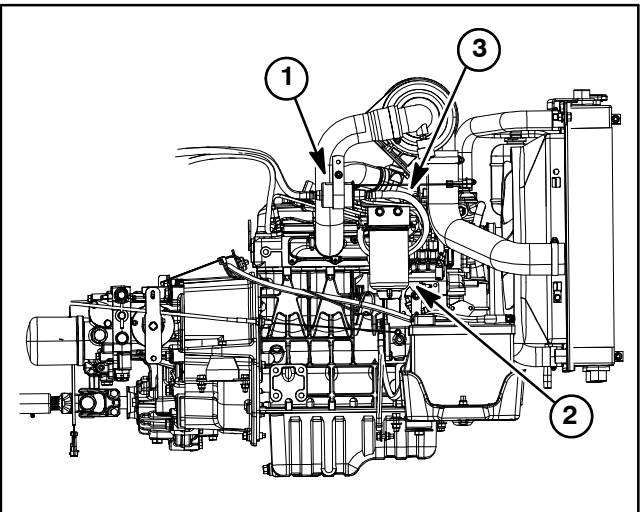

Figure 71
The fuel pump is attached to the frame near the fuel filter (Fig. 71). Electrical current is available for the fuel pump when the ignition switch is in either the RUN or START position.
3. Disconnect fuel hose (fuel pump discharge) from the fuel/water separator inlet fitting (Fig. 71).
6. Collect fuel in the graduated cylinder by turning ignition switch to the RUN position. Allow pump to run for fifteen (15) seconds, then turn ignition switch to OFF.
7. Fuel collected in the graduated cylinder should be approximately 16 fl oz (475 ml) after fifteen (15) seconds.